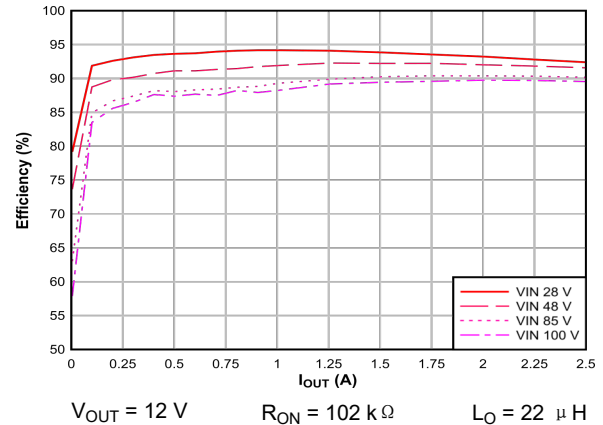
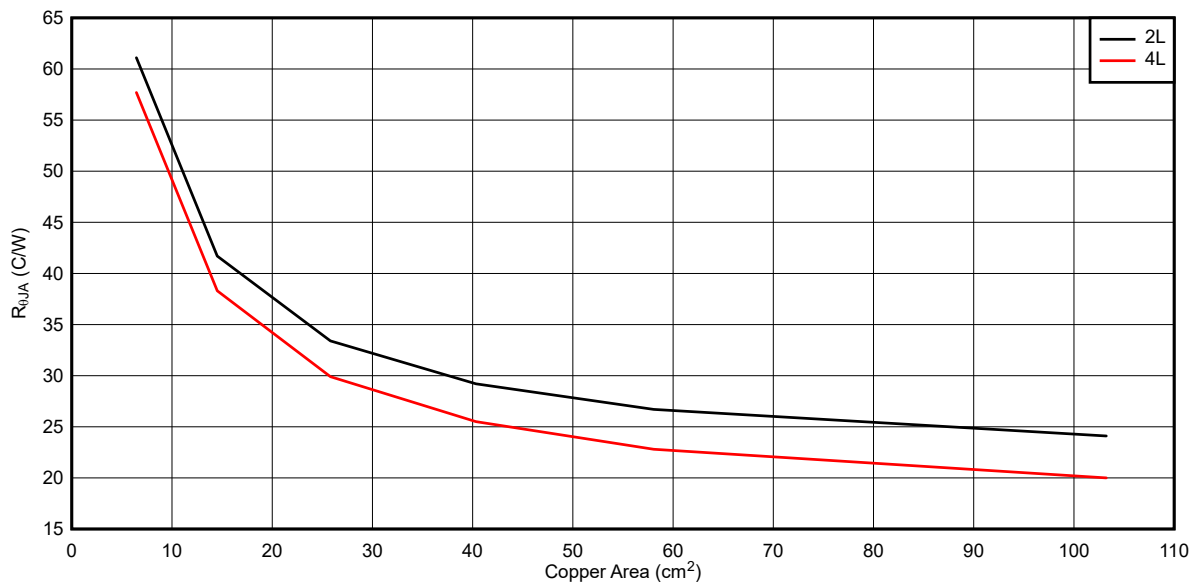

图 9-3. Conversion Efficiency (Linear Scale)
图 9-15. Typical $R_{\theta JA}$ vs Copper Area
The LM5012 features a die attach paddle, or "thermal pad" (EP), to provide a place to solder down to the PCB heat-sinking copper. This feature provides a good heat conduction path from the regulator junction to the heat sink and must be properly soldered to the PCB heat sink copper. Typical examples of $R_{\theta JA}$ can be found in Figure 9-15. The copper area given in the graph is for each layer. The top and bottom layers are 2-oz. copper each, while the inner layers are 1 oz. Remember that the data given in this graph is for illustration purposes only, and the actual performance in any given application depends on all of the previously mentioned factors.
To continue with the design example, assume that the user has an ambient temperature of 70°C and wishes to estimate the required copper area to keep the device junction temperature below 125°C, at full load. From the curves in Figure 9-3, an efficiency of about 92% was found at an input voltage of 48 V with output of 12 V with 1.75-A load. The efficiency is somewhat less at high junction temperatures, so an efficiency of approximately 90% is assumed. This gives a total loss of about 2.3 W. Subtracting out the conduction loss alone for the inductor and catch diode, the user arrives at a device dissipation of about 1.54 W. With this information, the user can calculate the required $R_{\theta JA}$ of about 30°C/W. Based on Figure 9-15, the required copper area is about 40 cm², for a two-layer PCB.